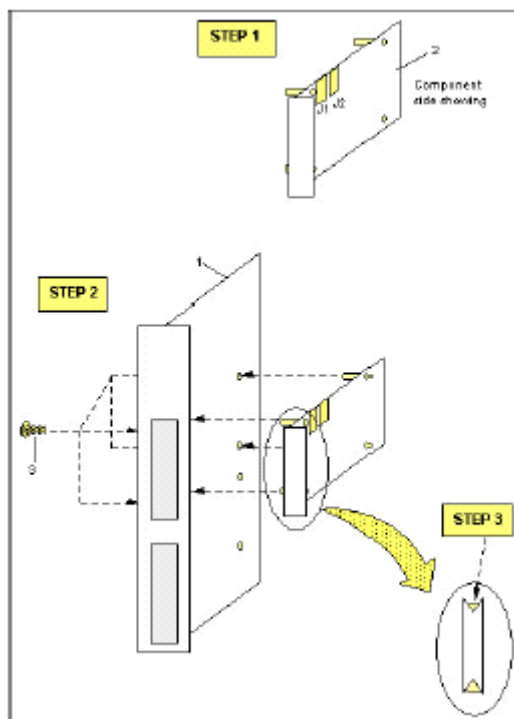

Figure 2 – Removing SCSI Board from the Motorola Board
1. SCSI board should already have four standoffs mounted as illustrated in Figure 2 below.
2. On the bottom side of the Motorola Board remove and retain the four (4) screws holding the Daughter SCSI board in place.